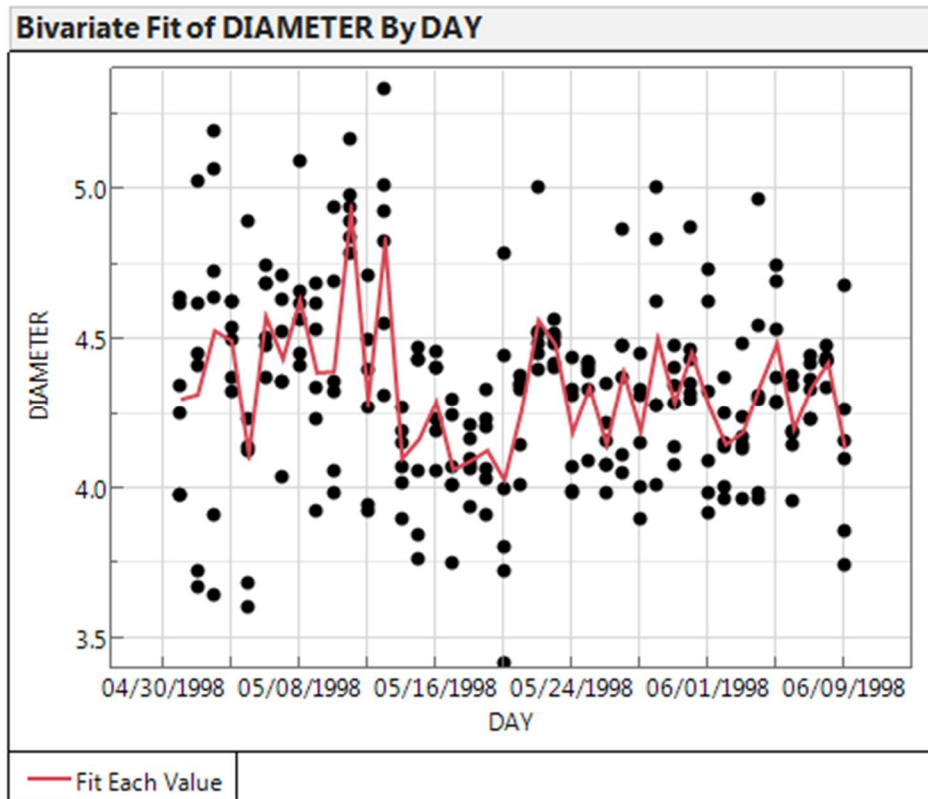

Figure 16 Diameter data plotted over time.
I'll conclude this section with an example of setting the "Spec Limits" property of a column. If a column in the data table represents an attribute that has associated specification limits, setting the Spec Limits property is a great time-saver. After this property is set, all graphs of that attribute can display spec limits and even some basic analyses, such as counting out of spec values, are automated. For this example I'll use the JMP example data set Diameter.jmp. According to the notes in the example data table, the data originate from a company that manufactures tubing for medical applications. The target outer diameter (OD) of the tubing was 4.4mm, and two prototype runs occurred between May 1 and May 20 (Phase 1), and May 21 and June 9 (Phase 2). While not specifically stated, let's assume the tubing has specifications for Max OD and Min OD of 4.8mm and 4.0mm respectively. The raw data, plotted over time, are shown in Figure 16. Clearly some diameters are larger than 4.8mm and many are smaller than 4.0mm. We can quickly determine how many by setting the Spec Limits property for the DIAMETER column, and plotting the data with the Distribution platform by Phase.